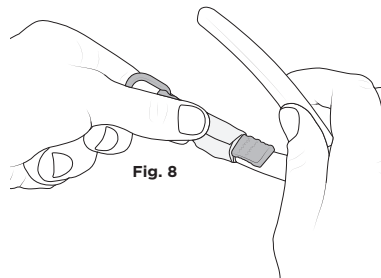

Fig. 8
- c. Continue wrapping tape until you reach the end. Firmly push down on the end. The tape will then begin to bond to itself. [fig 8]